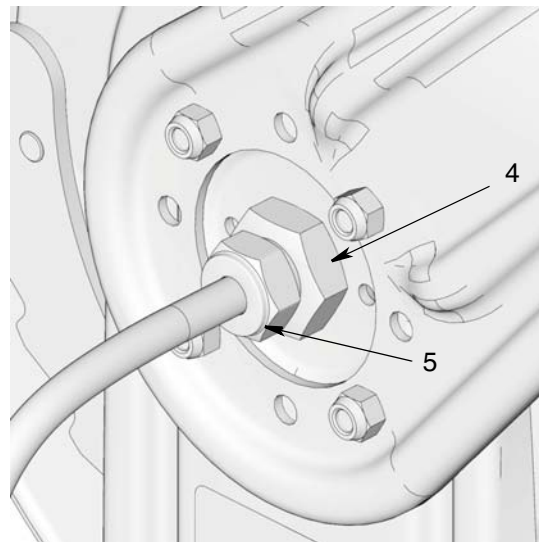

FIG. 5
6. Loosen and remove strain relief nut (5) (FIG. 5) to allow power cord to move freely.
- Tighten 34 mm hex nut (4) to 59 ft-lbs (80 N.m). (Refer to FIG. 5, page 12 for the location of this part.)
- Tighten strain relief nut (5) to 11 ft-lbs (15 N.m). (Refer to FIG. 5, page 12 for the location of this part.)